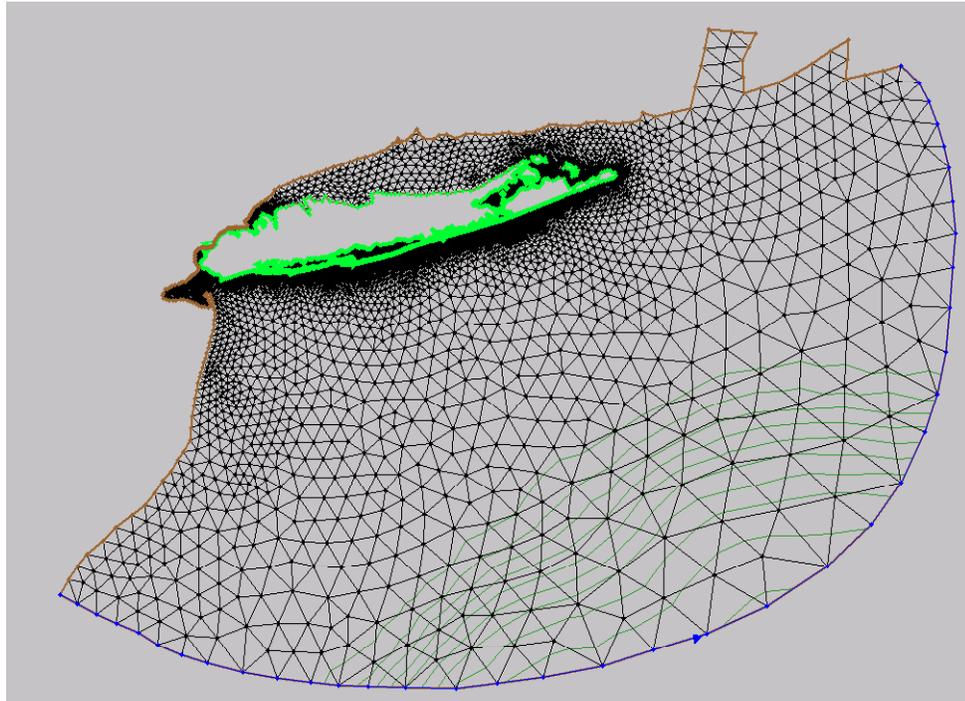

Figure 5-1. The Shinnecock model geometry
1. Select *File | Open* and open the file “shinnecock.grd”. This model is of Shinnecock Inlet and surrounding areas around Long Island, New York. The geometry is shown in Figure 5-1.